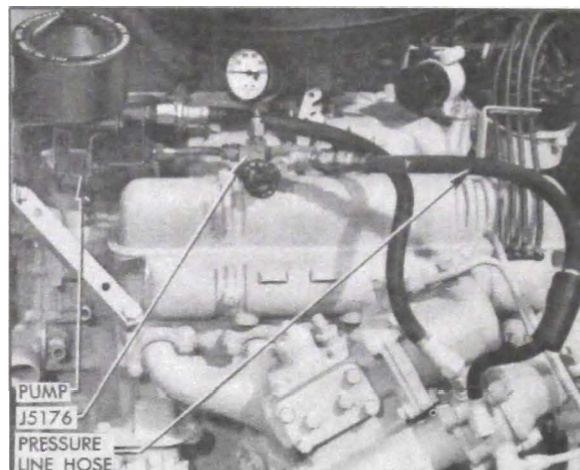

Figure 8-17—Pressure Gauge J 5176 Installed
(1) Disconnect the pressure line hose at oil pump, attach Gauge J 5176 to pump and connect the hose to end of gauge where the valve is located. See figure 8-17.